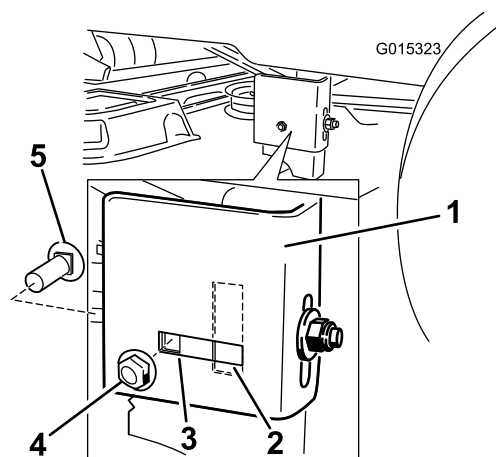

Figure 61
7. Move to the left side of the machine. Check if the side carriage bolt is in the fixed or slotted position (Figure 61).
8. If the side carriage bolt is in the fixed position, remove the side carriage bolt and side locking nut from the fixed position and install it into the slotted adjustment position (Figure 61).